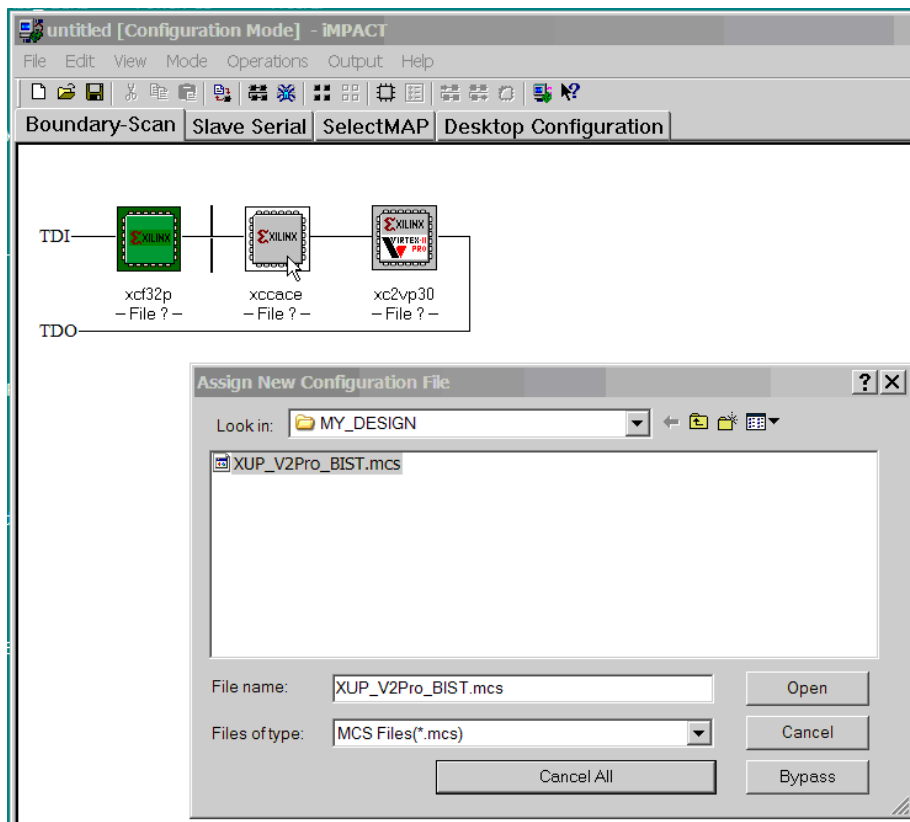

Figure C-4: Assigning New PROM Configuration File
7. Navigate to the directory where you saved the XUP_V2Pro_BIST.mcs file. Select this file as the Configuration file for the XCF32P PROM, the first device in the JTAG chain identified by iMPACT as shown in Figure C-4. Click on the Open button.